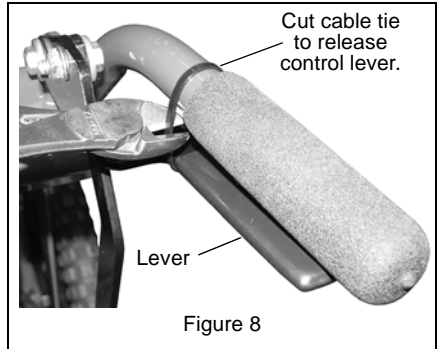

Figure 8
1. Remove cable tie securing lower control lever to handlebar on each side. See Figure 8.